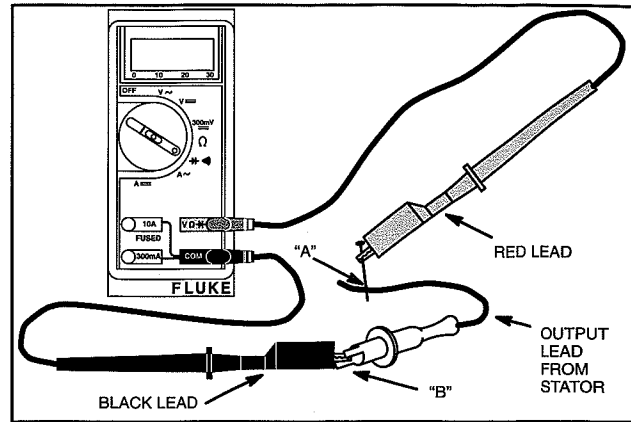

Fig. 13 – Testing Diode
4. Attach RED test lead clip to point “A” and BLACK test lead clip to point “B,” Fig. 13. (It may be necessary to pierce wire with a pin as shown.)